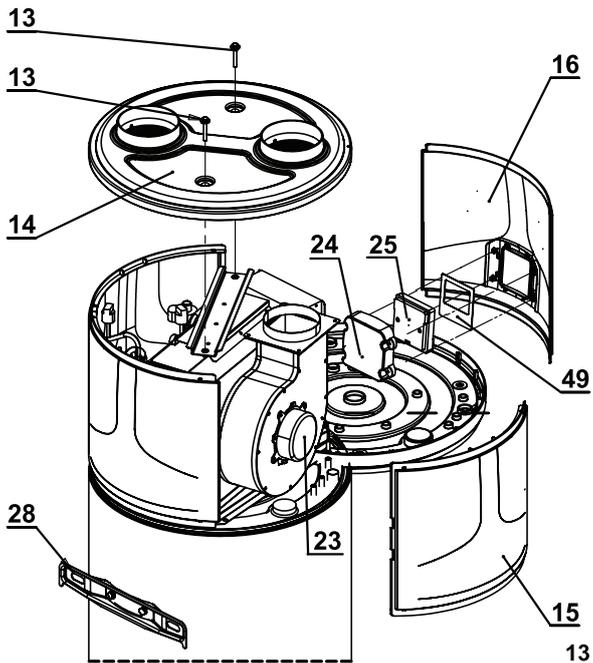

Fig. 6
4. CARACTERÍSTICAS DE DISEÑO (Fig. 6, 7, 8, 9)